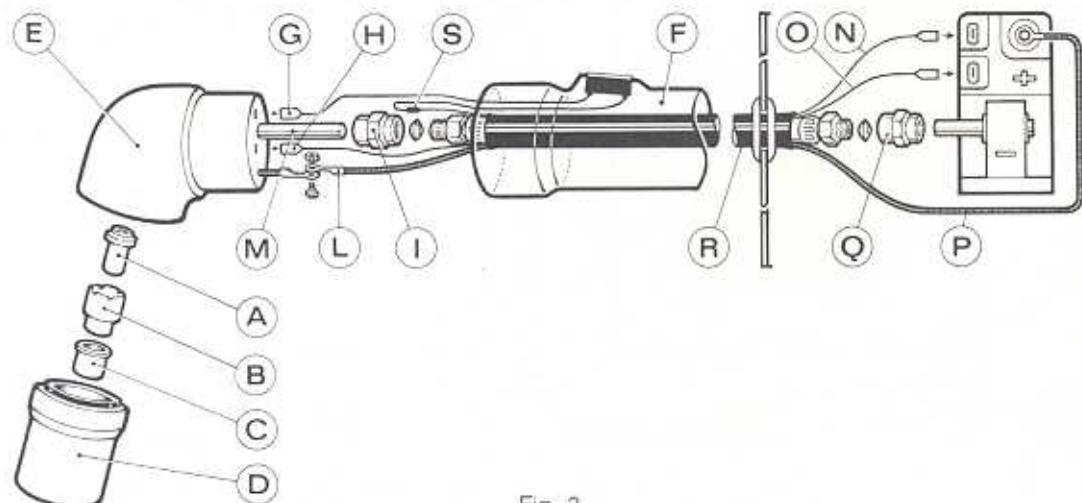

Fig. 3
1) Substitution of consumable parts (fig. 3).
3) Substitution of complete torch (fig. 3).
4) Substitution of cable **R** (fig. 3).